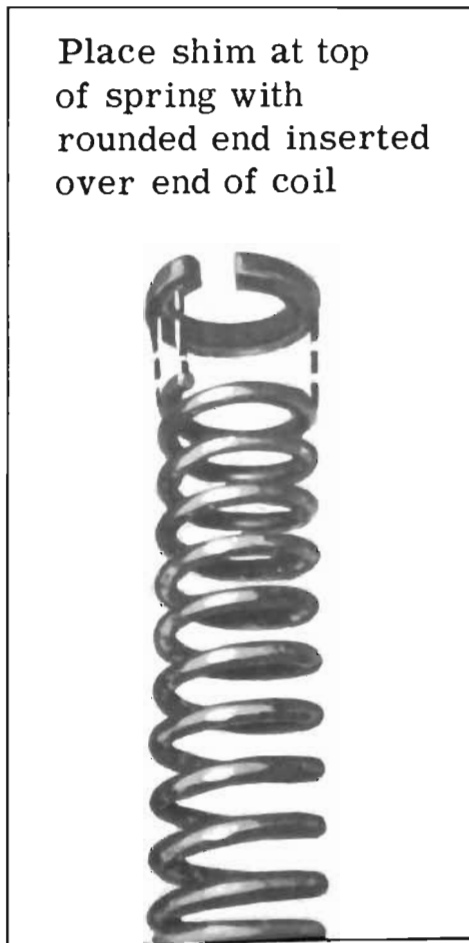

Figure 7-25—Installing Shim
3. Place shim at top of spring as shown in Figure 7-25.